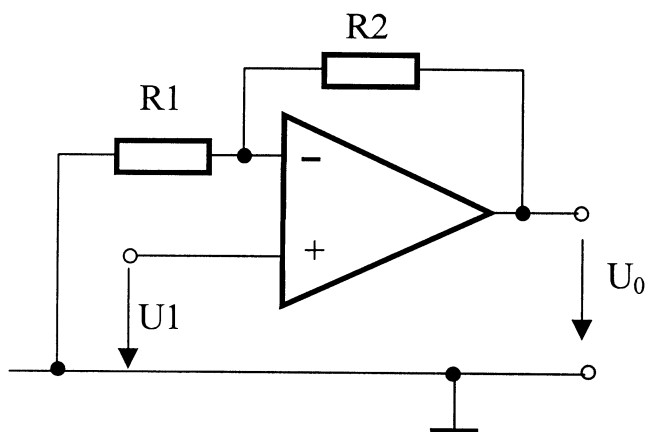

Figure 6: Electrical circuit with non-inverting amplifier.
Look at the electrical circuit with the non-inverting amplifier diagram in Fig. 6. The input voltage is applied to the non-inverting input. The inverting input is grounded through resistor R_1 and the feedback loop is connected to the same input via resistor R_2 . Think about what this circuit will do before the laboratory. The relation between the input and the output voltage can be easily deduced using the same line of thought as to the one leading to equation (1).